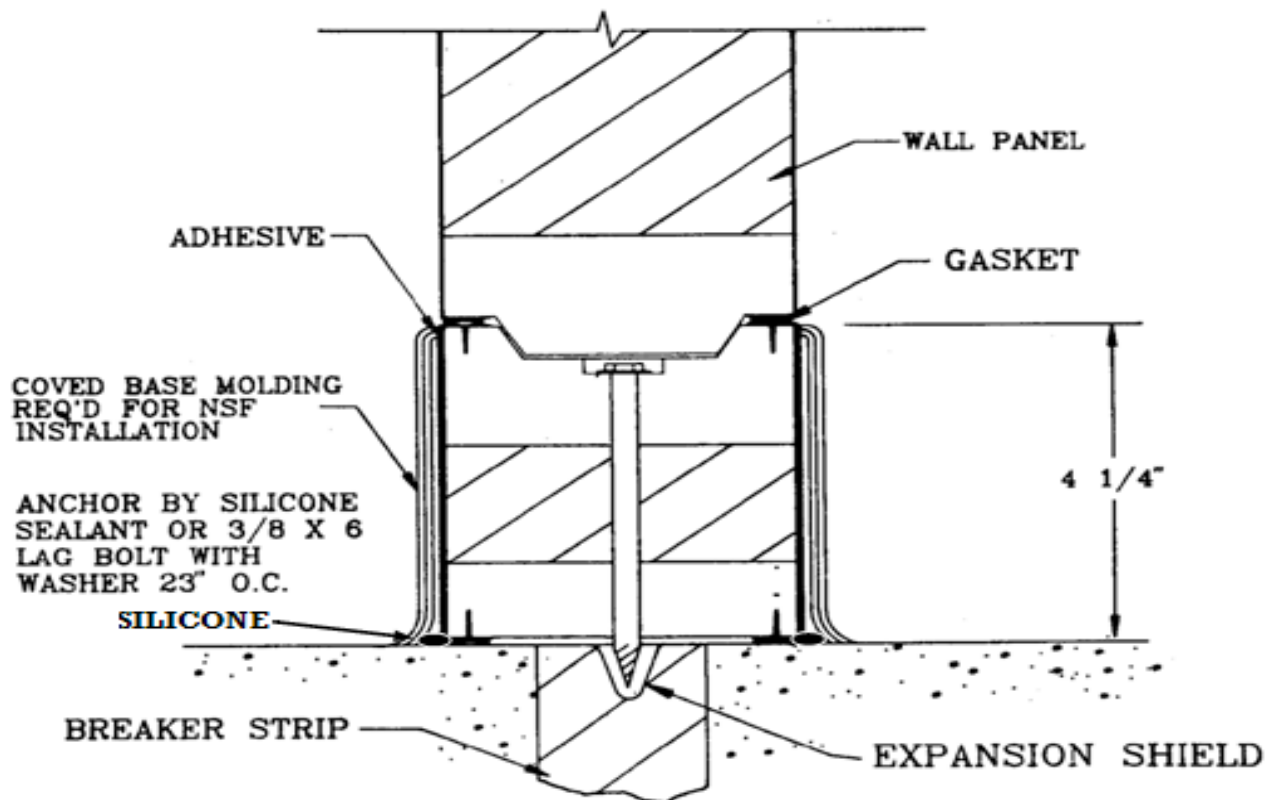

FIGURE 11 - FLOORLESS FOAMED SCREED SECTION
- A. Use a 3/8" x 6" hexhead lag screw with expansion shield to drill a 3/8" diameter hole in center of screed approximately 23" O.C. and counter bore 1-1/4" x 3/8" deep (Refer to Figure 11).